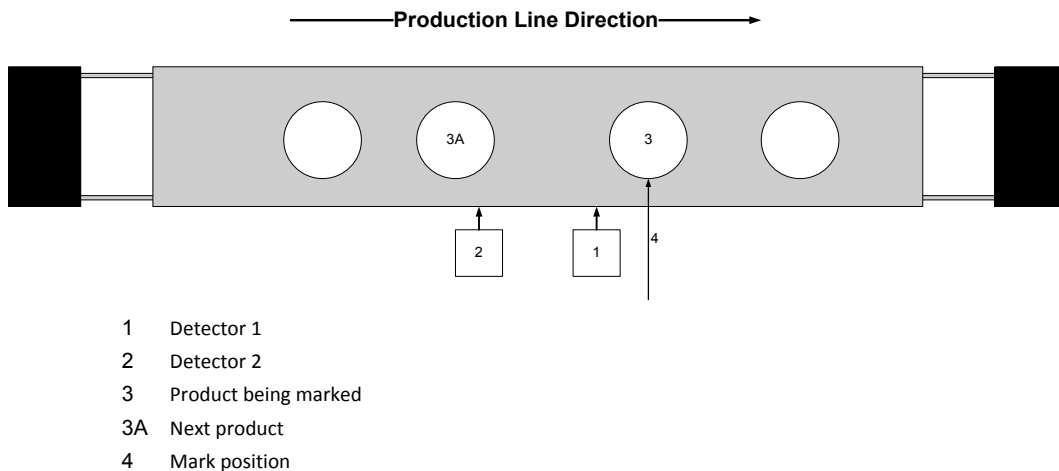

Figure 42 - Dual-detector configuration
In a dual-detector configuration, the detectors are mounted so that a gate signal from detector 2 is followed by a mark trigger signal from detector 1 and before detector 2 sends a new gate signal when it detects the next product. Figure 42 shows an arrangement for dual-detector operation. Detector 1 (1) and detector 2 (2) are shown detecting the trailing edge of a product (3), which is currently being marked at the mark position (4). Detector 2 (2) will not detect the next product (3A) until after the current mark has been completed.